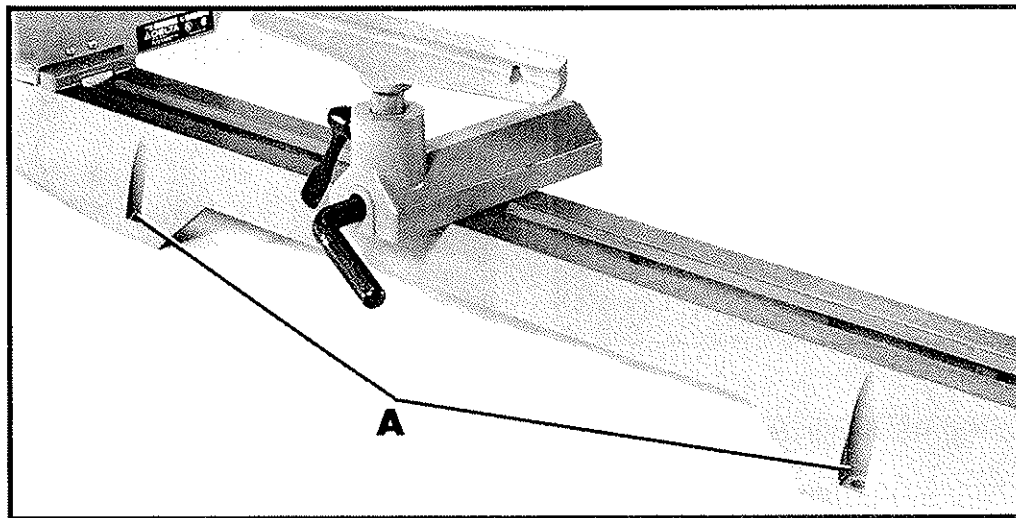

Fig. 14
This machine must be fastened to a supporting surface. Four holes, two of which are shown at (A) Fig. 14, are provided in the lathe bed for this purpose. **IMPORTANT:** If the lathe is to be mounted to the accessory 46-705 stand, the stand must be fastened to a supporting surface if it has any tendency to tip over, slide or "walk" during operation.